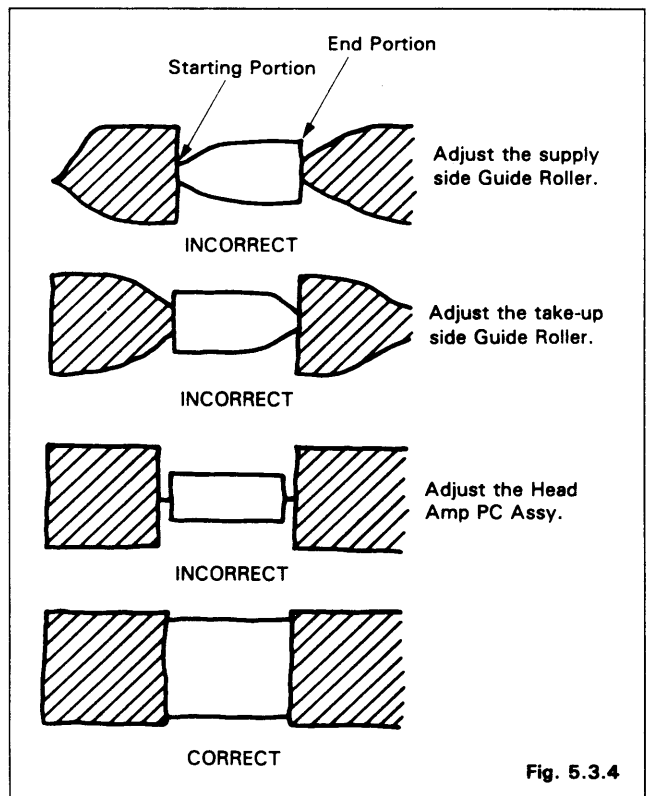

Fig. 5.3.4
4. Adjust the supply side guide roller height so that a flat continuous large waveform is obtained as shown in Fig. 5.3.4